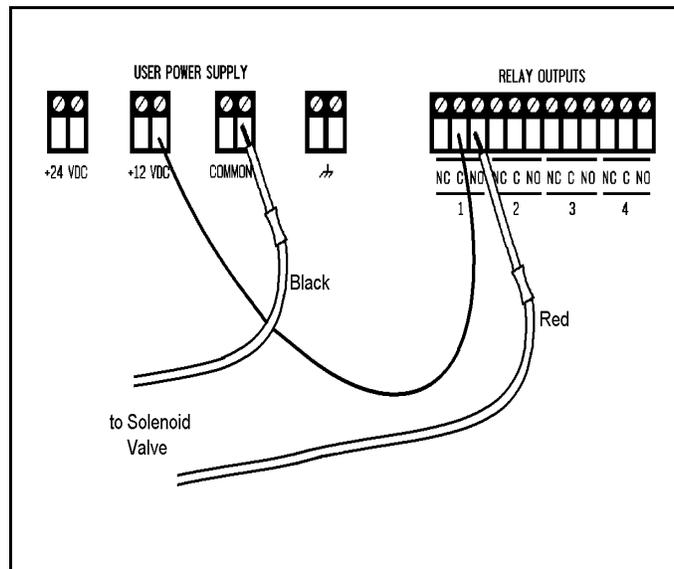

Figure 4-5 Valve—Controller Connections
8. Refer to Figure 4-5.
- Connect the other wire to the normally open (NO) terminal of the relay output (which you specified in the Extended Definition).
7. Connect 12VDC or 24VDC (in accordance with your valve's specification) to the common (C) terminal of the same relay output, as shown in Figure 4-5.